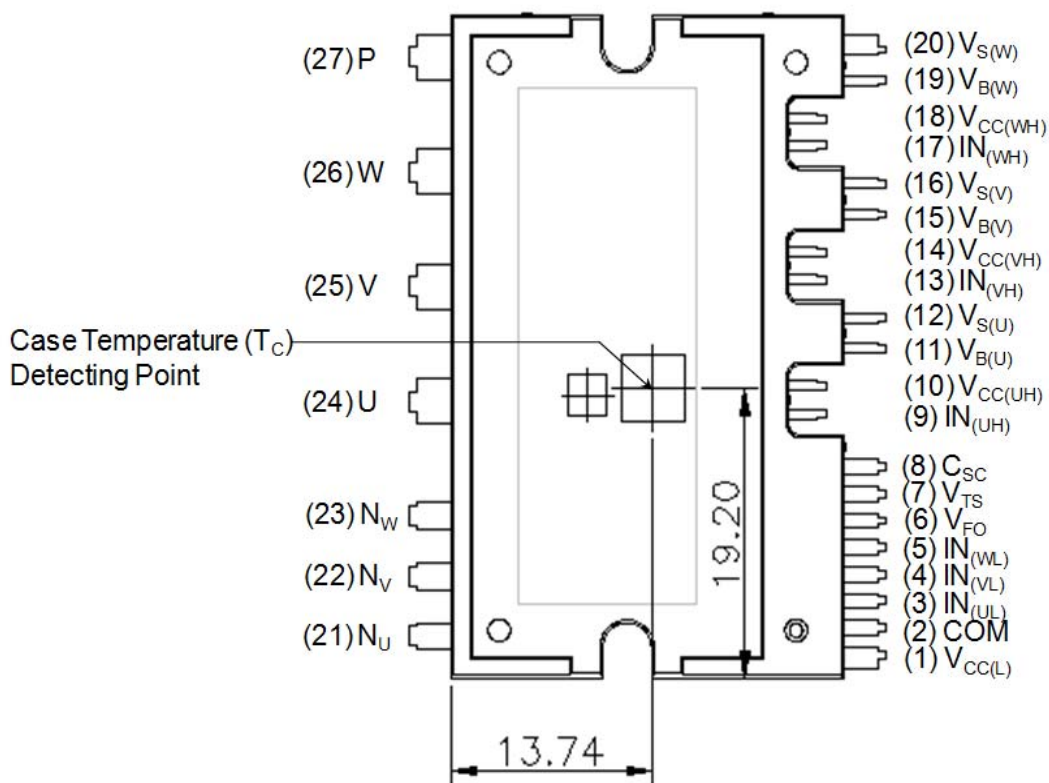

Figure 2. Top View
5. For the measurement point of case temperature ( $T_C$ ), please refer to Figure 2.